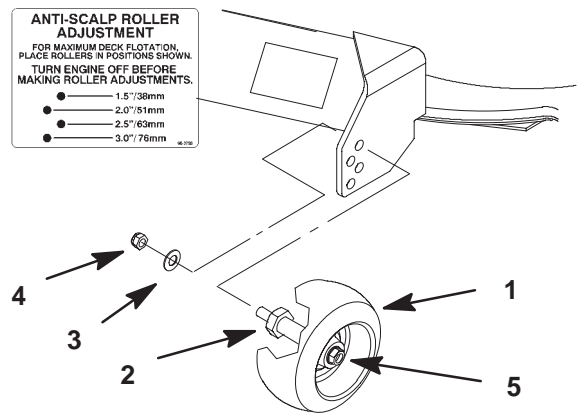

Figure 23
2. After adjusting height-of-cut remove nut and washer while holding stud with wrench (Fig. 23).
Note: Do not remove the wheel nut and washer (Fig. 23).
3. Select hole so gage wheel is positioned to the nearest corresponding height-of-cut desired (Fig. 23).
4. Reinstall the stud nut and washer (Fig. 23).